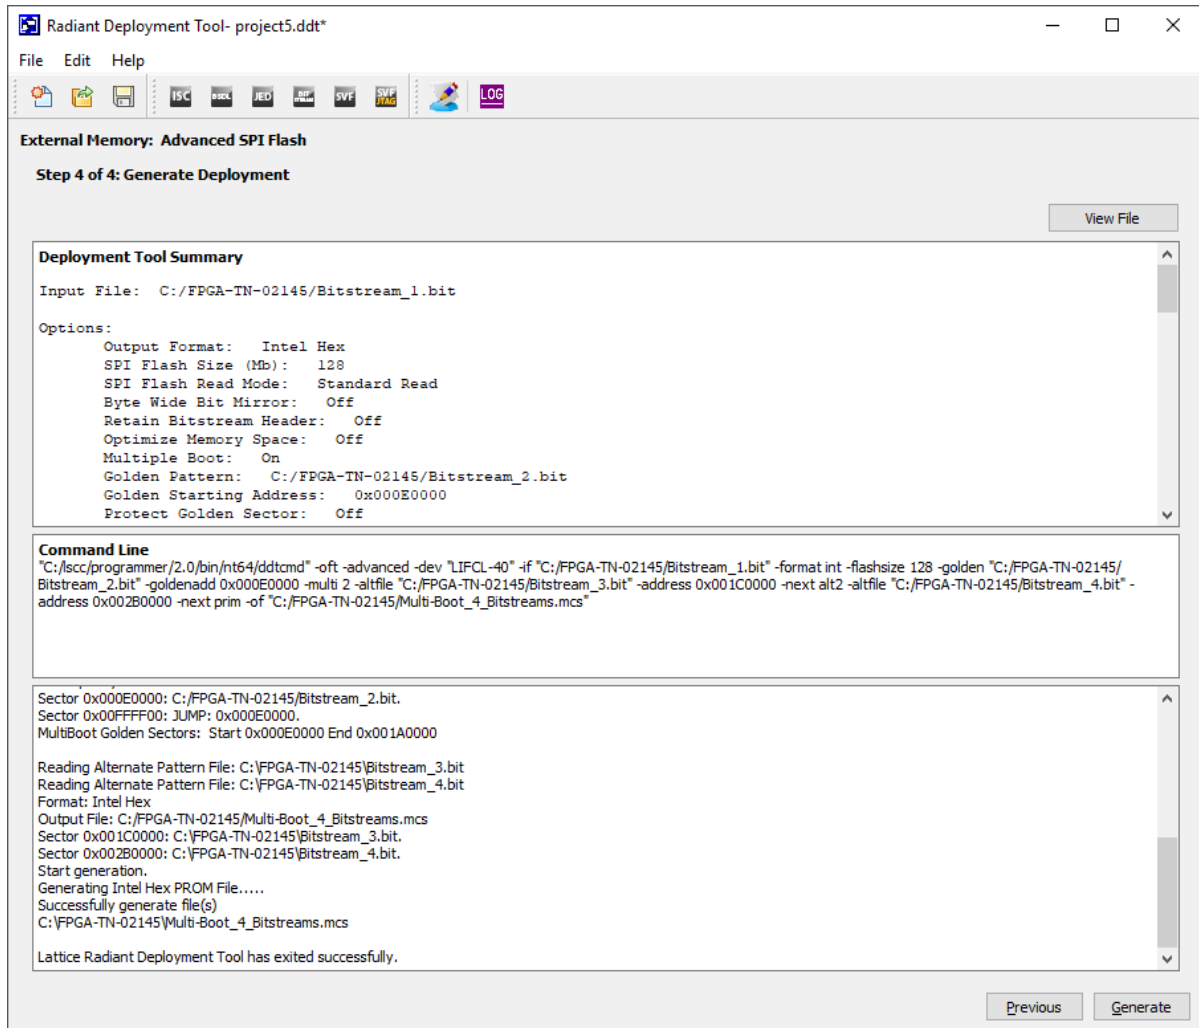

Figure 6.16. Generate Deployment Window
Step 4 of 4: Generate Deployment window (Figure 6.16)